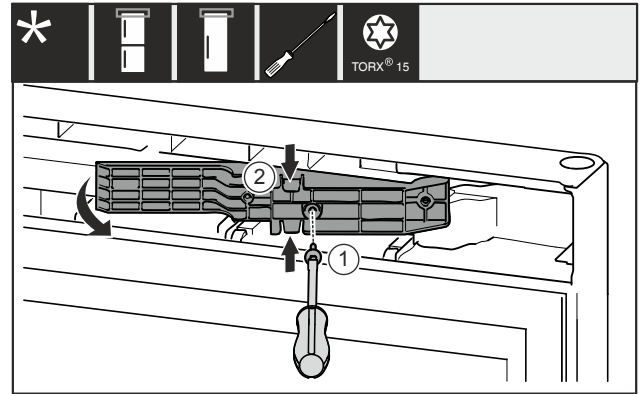

Fig. 16 \*
- ▶ Remove the screw Fig. 16 (1)\*
- ▶ Gently press the adapter piece Fig. 16 (2) together at the top and bottom and pull it out.\*